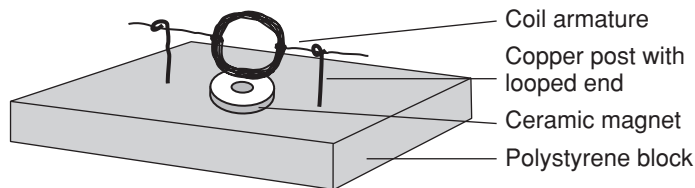

Figure 1.
8. Use needle-nose pliers to make a small, complete loop at one end of each piece of copper wire. If necessary, use the needle-nose pliers to straighten the copper wires as well (see Figure 1).
the polystyrene foam surface and the armature should be balanced and spin freely (see Figure 1).